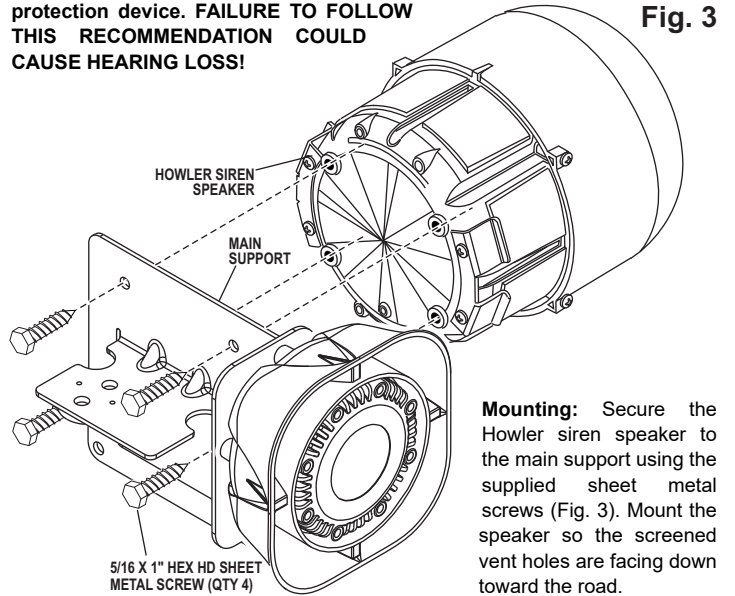

Fig. 3
**Mounting:** Secure the Howler siren speaker to the main support using the supplied sheet metal screws (Fig. 3). Mount the speaker so the screened vent holes are facing down toward the road.